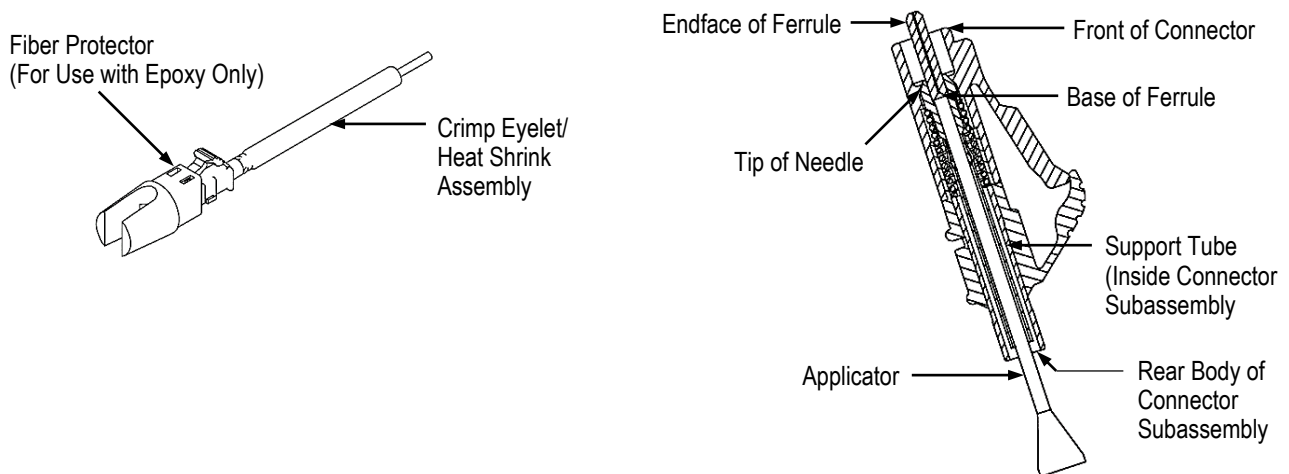

Figure 4
1. If using the epoxy, remove the protective cover from the connector subassembly, and attach the fiber protector as shown in Figure 4.
2. Hold the connector subassembly in an upright position, and insert the needle tip into the rear body and support tube until the needle tip touches the bottom of the ferrule. See Figure 4.